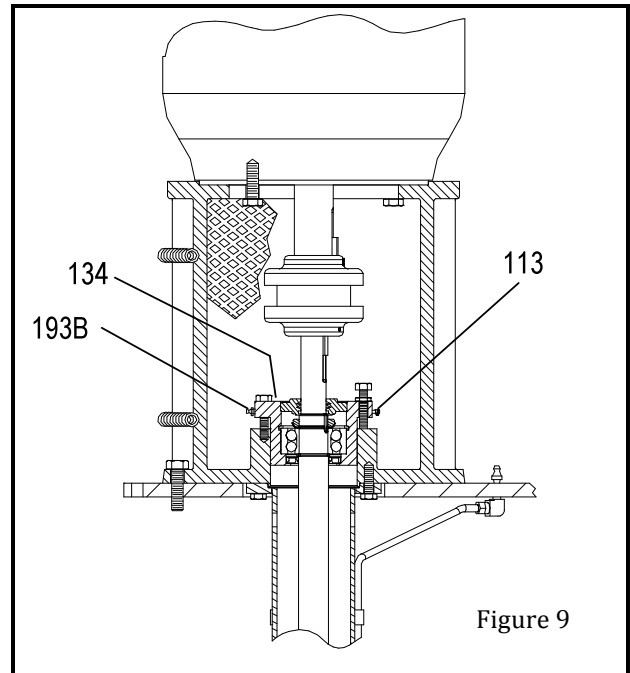

Figure 9
2. Fill grease cavity through grease fitting (193B) on bearing shell (134). Use recommended grease and fill until fresh grease comes out of the relief fitting (113) on the opposite side of the bearing shell (See Figure 9).